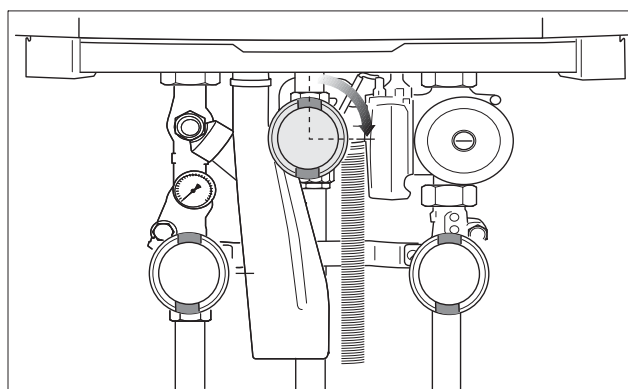

fig. 110 Closing the gas valve
- Close the main gas supply or the gas valve (fig. 110).